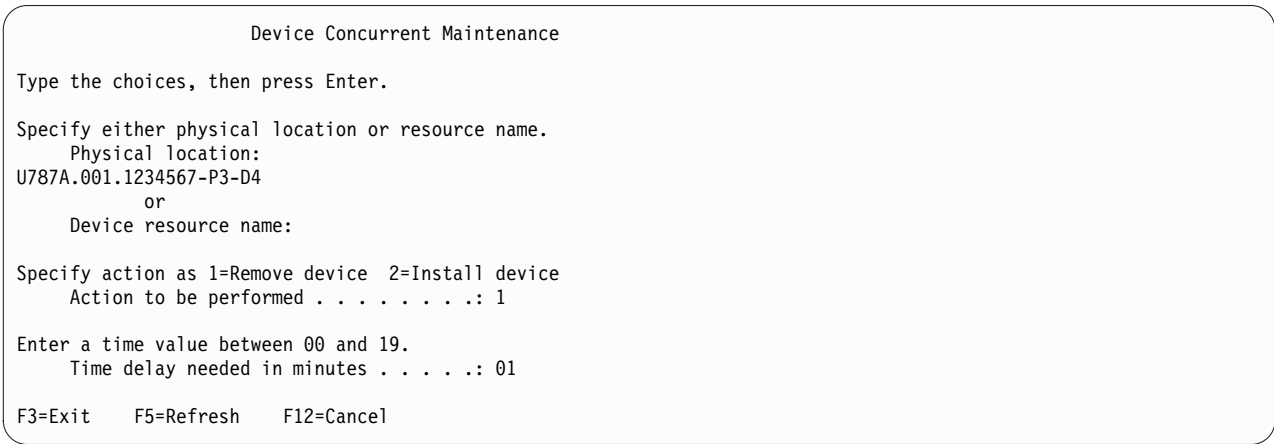

Figure 99. Example Device Concurrent Maintenance display
14. From the Hardware Service Manager, navigate to **Select Device Concurrent Maintenance** option. Press Enter. The Device Concurrent Maintenance display is shown, as shown in the Figure 99 on page 110.